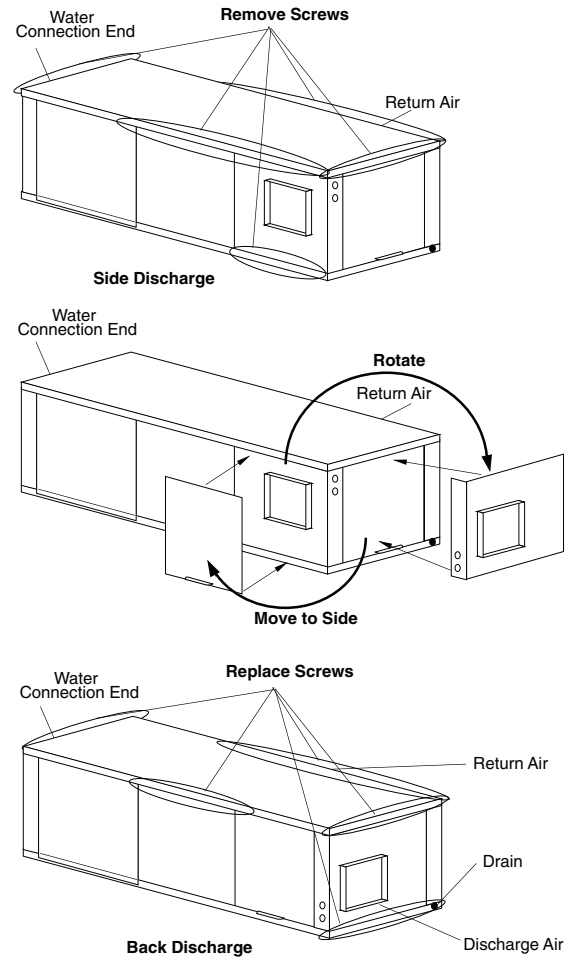

Fig. 5 — Conversion Left Return, Side Discharge to Back Discharge
process is the same for right and left return configurations. See Fig. 5 and 6.
1. Remove screws to free the top and discharge panels. See Fig. 5.